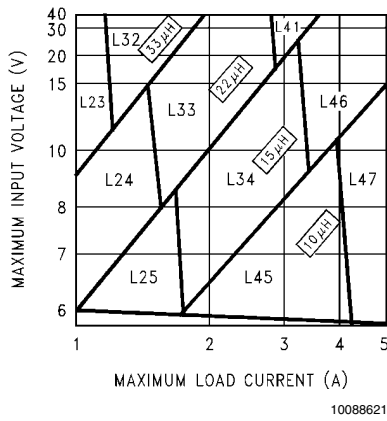
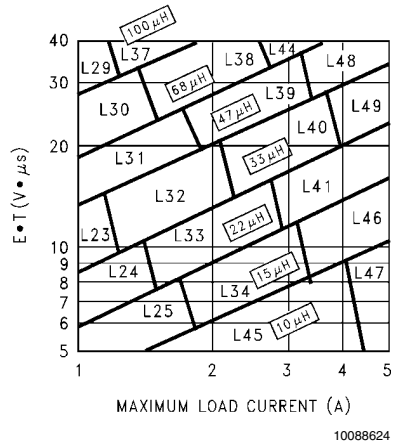

FIGURE 3. LM2678-3.3
FIGURE 6. LM2678-ADJ
**Step 3:** Determine the inductor required by using one of the four nomographs, *Figure 3* through *Figure 6*. Table 1 provides a specific manufacturer and part number for the inductor.
**Step 5:** Determine an input capacitor from Table 4 for fixed output voltage applications. Use Table 2 to find the specific capacitor type. For adjustable output circuits select a capacitor from Table 2 with a sufficient working voltage (WV) rating greater than  $V_{in\ max}$ , and an rms current rating greater than one-half the maximum load current (2 or more capacitors in parallel may be required).
**Step 3:** Use the nomograph for the 3.3V device, *Figure 3*. The intersection of the 16V horizontal line ( $V_{in\ max}$ ) and the 4A vertical line ( $I_{load\ max}$ ) indicates that L46, a 15 $\mu$ H inductor, is required.
**Step 3:** To use the nomograph for the adjustable device, *Figure 6*, requires a calculation of the inductor Volt•microsecond constant ( $E \cdot T$  expressed in  $V \cdot \mu s$ ) from the following formula:
Using *Figure 6*, the intersection of  $27\text{V} \cdot \mu\text{s}$  horizontally and the  $3.5\text{A}$  vertical line ( $I_{\text{load max}}$ ) indicates that L48, a  $47\mu\text{H}$  inductor, or L49, a  $33\mu\text{H}$  inductor could be used. Either inductor will be suitable, but for this example selecting the larger inductance will result in lower ripple current.
Figure 6, selects an inductance of  $22\mu\text{H}$  or less, Table 6 does not provide an output capacitor solution. With these conditions the number of output capacitors required for stable operation becomes impractical. It is recommended to use either a  $33\mu\text{H}$  or  $47\mu\text{H}$  inductor and the output capacitors from Table 6.